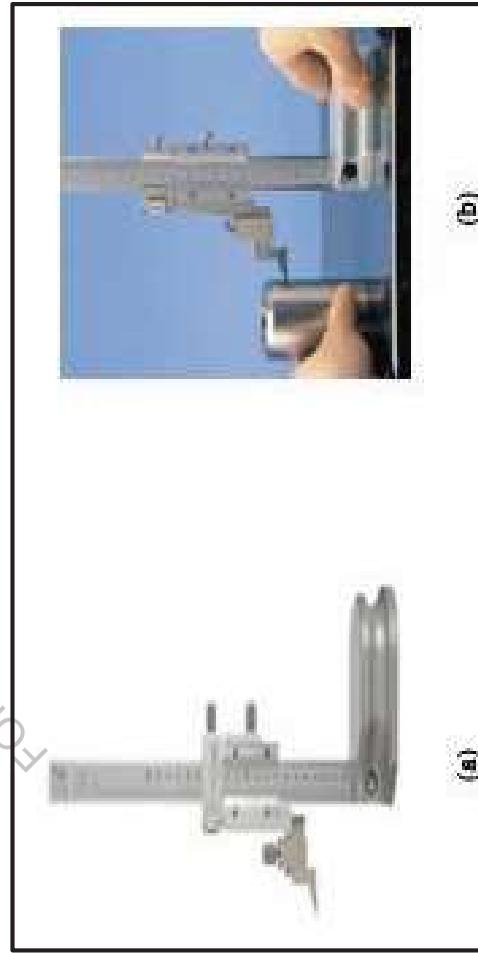

Figure 2.3 (a) Vernier Height Gauge and (b) its use
2.2.1.3 Vernier Height Gauge: A vernier height gauge (Figure 2.3 (a)) is used for measuring height of an object or for marking lines onto an object of given distance from a datum base. Object to be measured and the vernier height gauge are kept on the surface plate for accurate measurements as shown in Figure 2.3 (b).